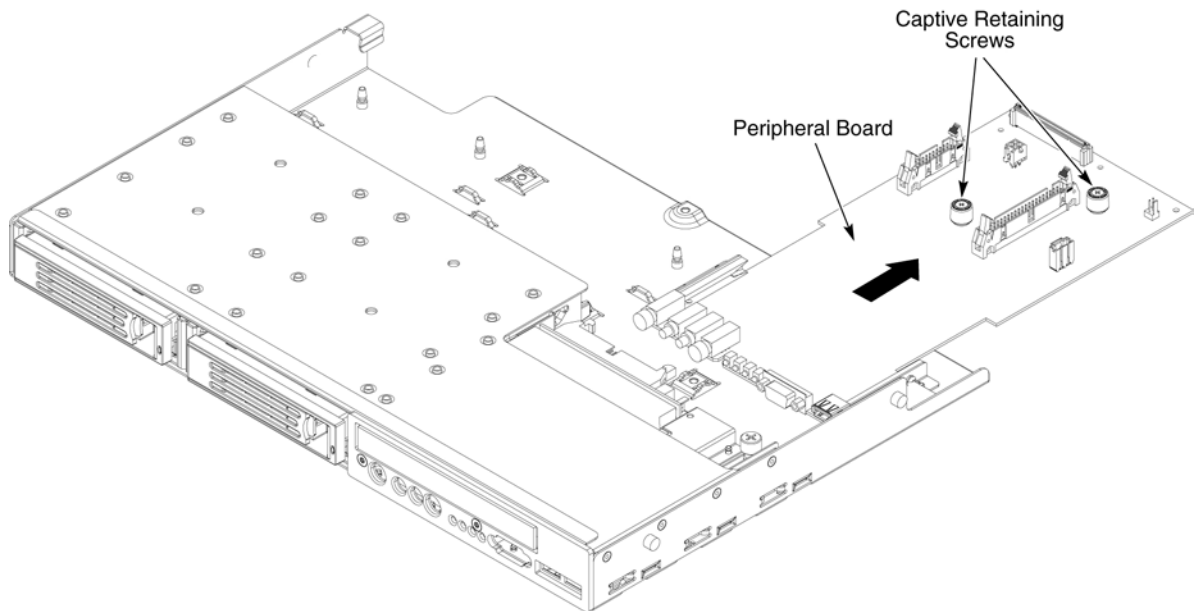

Figure 70. Removing the Peripheral Board
4. Slide the board rearward to remove it. See *Figure 70*.